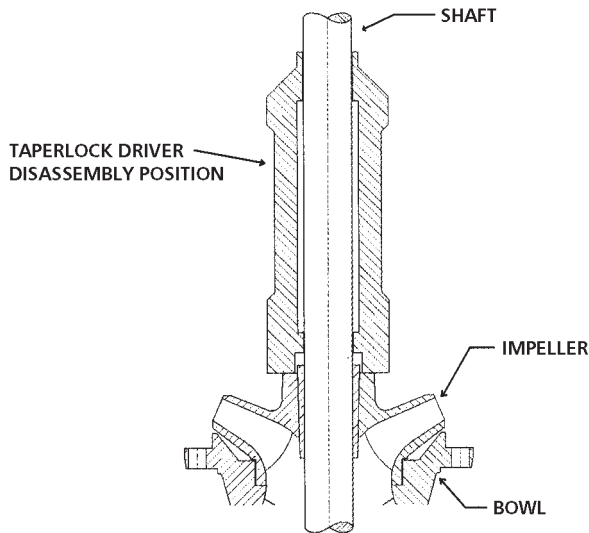

Figure 3 – Disassemble the Impeller
- B. Pull shaft out as far as possible and strike impeller hub utilizing a taperlock driver or equivalent sliding along the pump shaft to drive the impeller off the taperlock. See Figure 3.